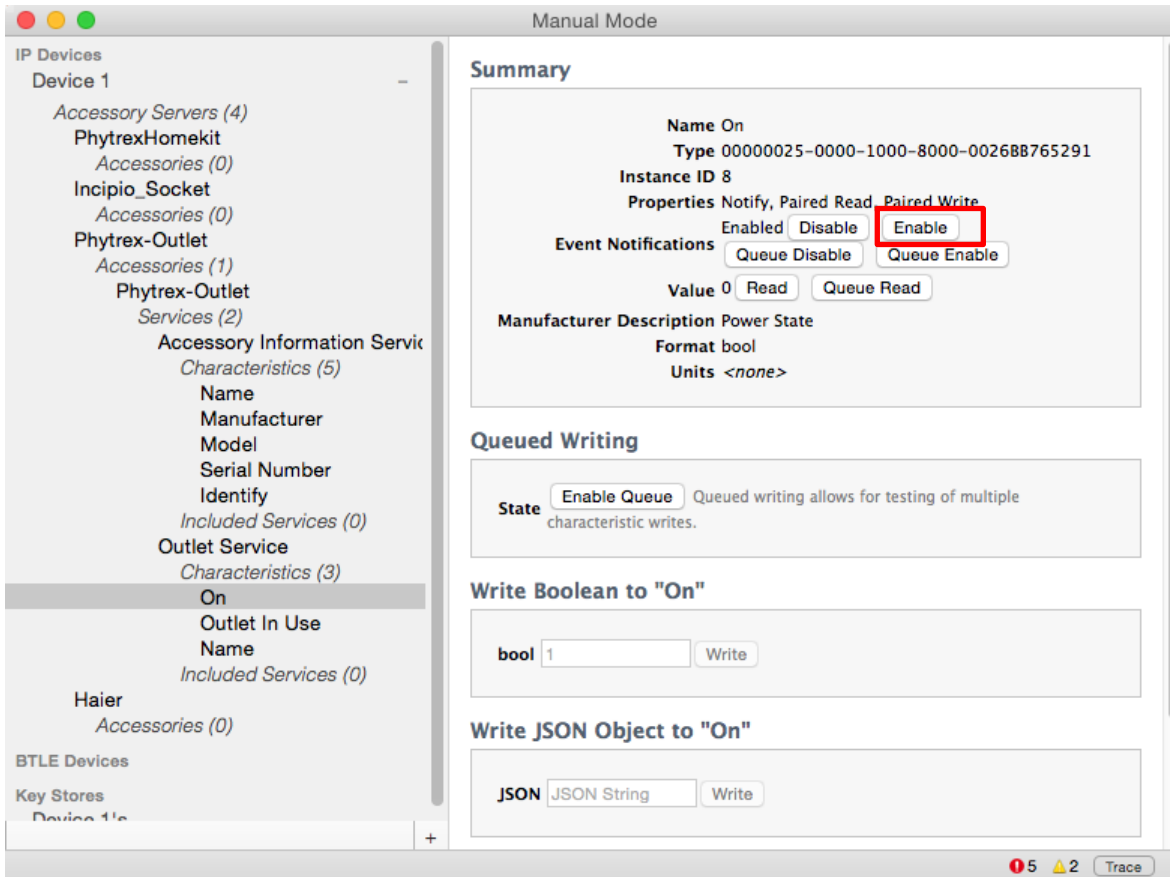

Figure 36: Activate the Event Notification
- Step 9. Press "Outlet Manual Switch" around 1~2 seconds on EVB (Figure 4) then release it, The "Outlet Switch On/Off Indicator" will be light on, and "Value" on HAT will update to "1". (Figure 36)